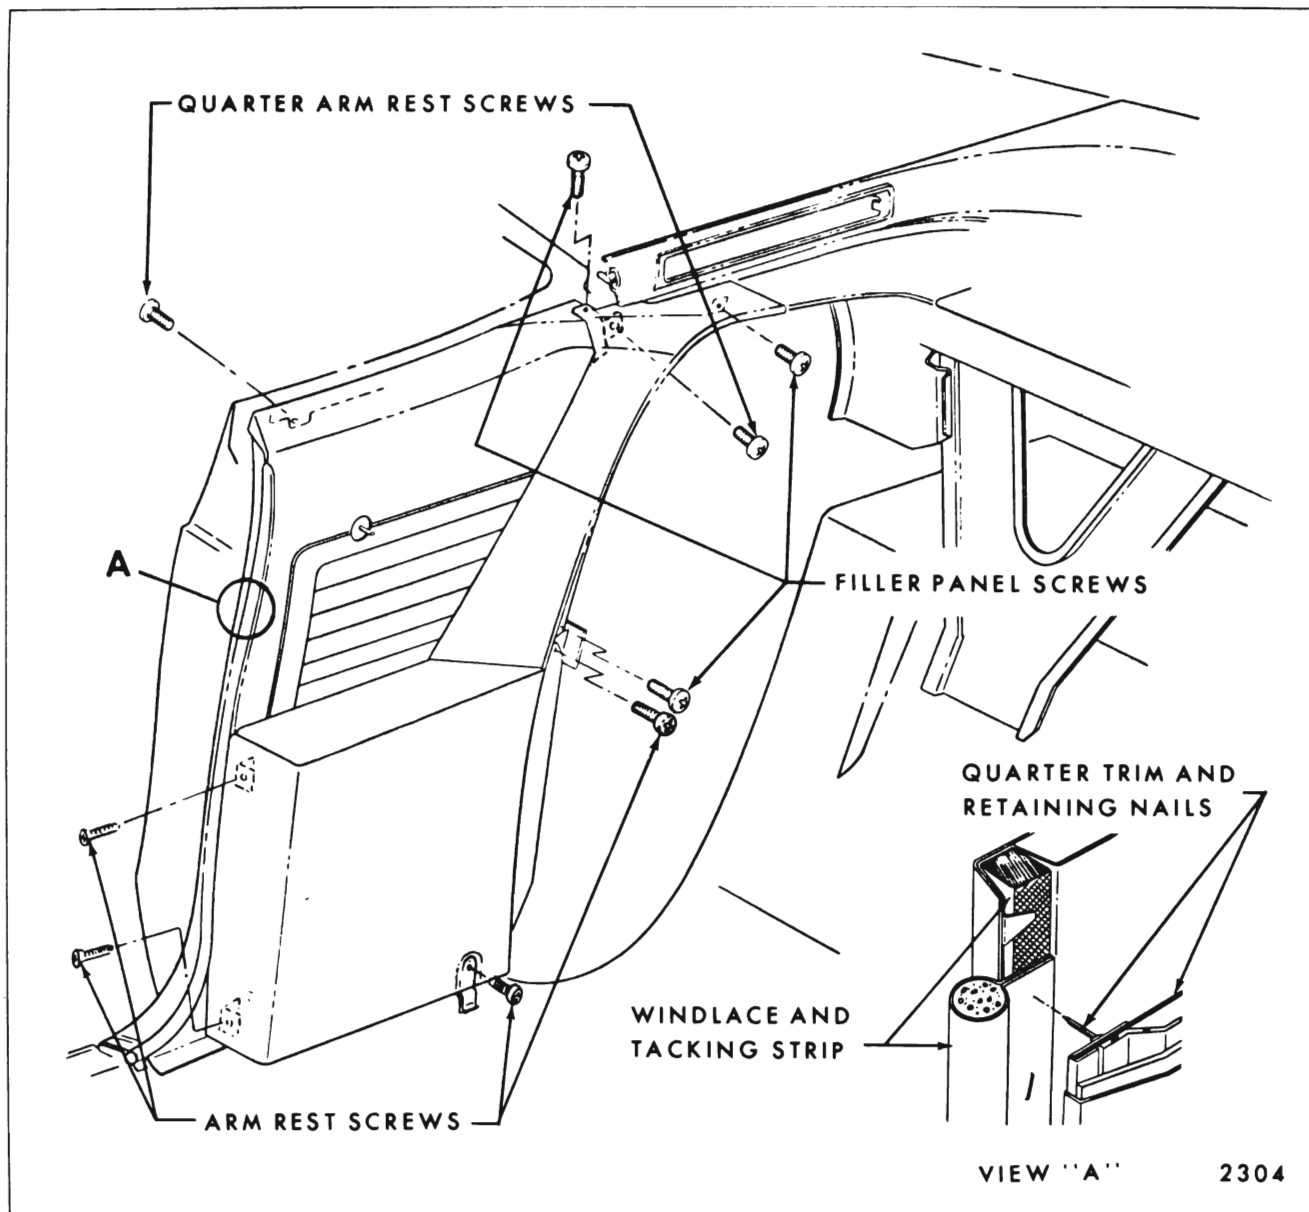

Fig. 14-28 —Rear Quarter Trim Assembly - "E" Body 39487 Style
3. Remove seat back to quarter inner panel filler panel on "39487" style only (Fig. 14-28).
5. Remove arm rest attaching screws (Fig. 14-28, 14-29 and 14-30). On Oldsmobile and Buick styles only, carefully remove arm rest from quarter trim and detach all electrical equipment present.
6. Remove quarter trim attaching screws (Fig. 14-28, 14-29 and 14-30).
7. On Buick and Oldsmobile only, pry trim assembly retaining nails from tacking strip along body lock pillar using trim panel removing tool (J-6335) (Fig. 14-28 and 14-29).